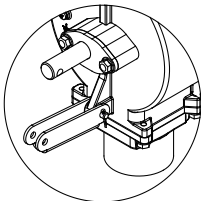

Figure 1
1. To install the links on the pump, insert a long clevis pin through the link ends and the pump's link holes. Secure with a small cotter pin. (figure 1)